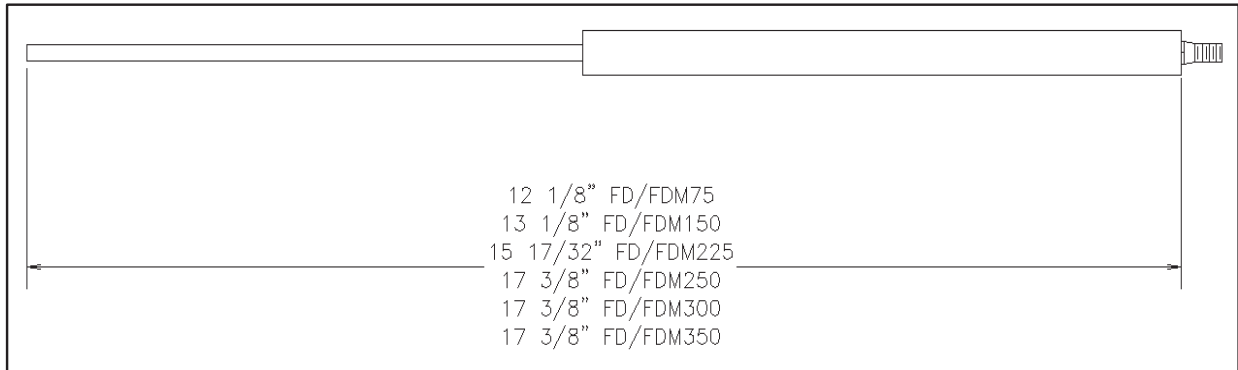

Figure 7: FD/FDM Burner Flame Rod
- 3.2.12 Check the spark and flame rod electrodes for proper installation and spark gas settings (**See Figures 7 and 8**). The spark is to arc against the raised tab of the burner diffuser. If a UV scanner is used, make certain it is securely in place.